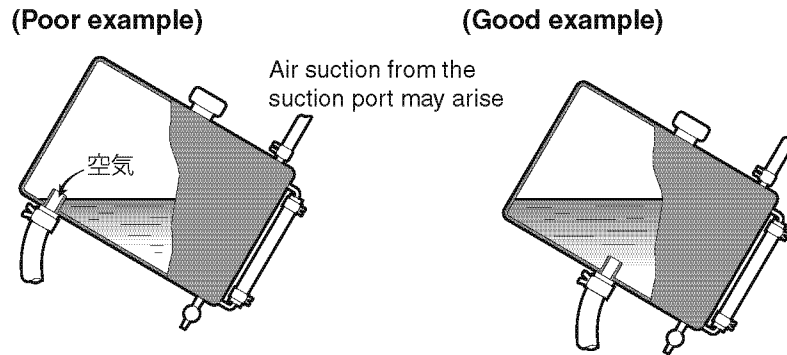

Figure 10-10
- The **Figure 10-10** illustrates why the suction port should be located at the center of the tank: